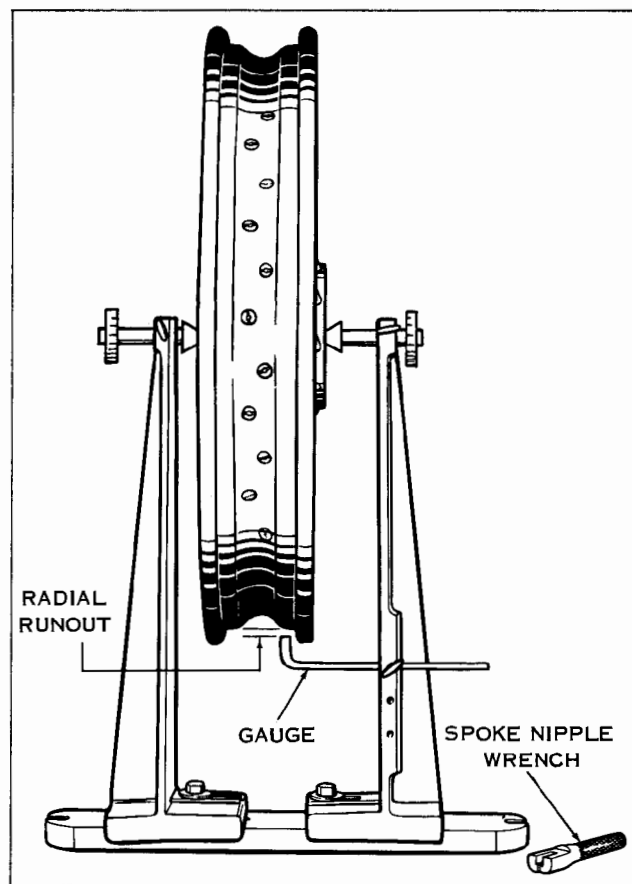

Figure 2-11. Truing Rim Concentric with Hub
7. After rim has been centered sideways with wheel hub and runs true sideways, check it for concentricity. Adjust truing stand gauge to rim tire bead seat as shown in Figure 2-11. If rim runs eccentric (radial runout), nipples must be loosened at points rim does not contact gauge, and nipples tightened at points rim contacts gauge. Amount nipples are to be loosened or tightened is determined by the amount rim is out of round. Rim should be trued to $1/32$ in. or less radial runout.